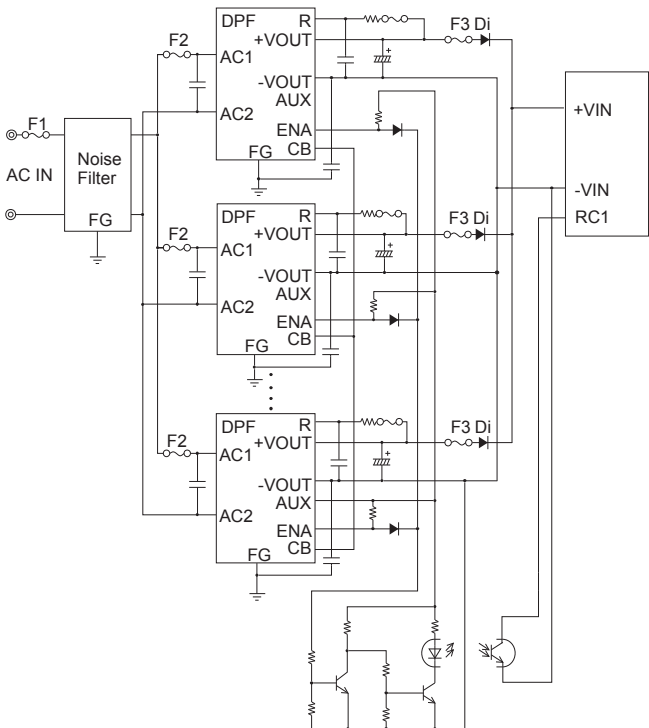

Fig.3.1 Parallel operation
■ Parallel operation is available by connecting the units as shown in Fig.3.1.